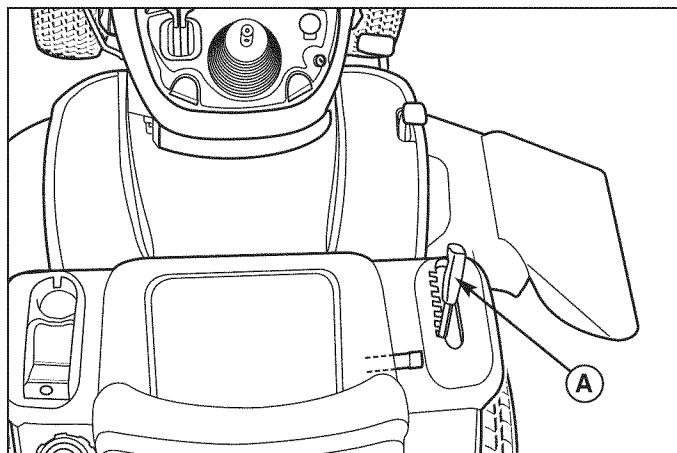

Figure 7. Raising & Lowering Mower
2. Place the mower lift lever (A, Figures 7) in the lowest position. Slide mower deck under right side of tractor so that mower hitch is aligned with the front tractor hitch.
The cutting height lift lever (A, Figure 7) controls the mower cutting height. The cutting height has seven positions between approximately 1-1/4" and 4" (3,2-10 cm).